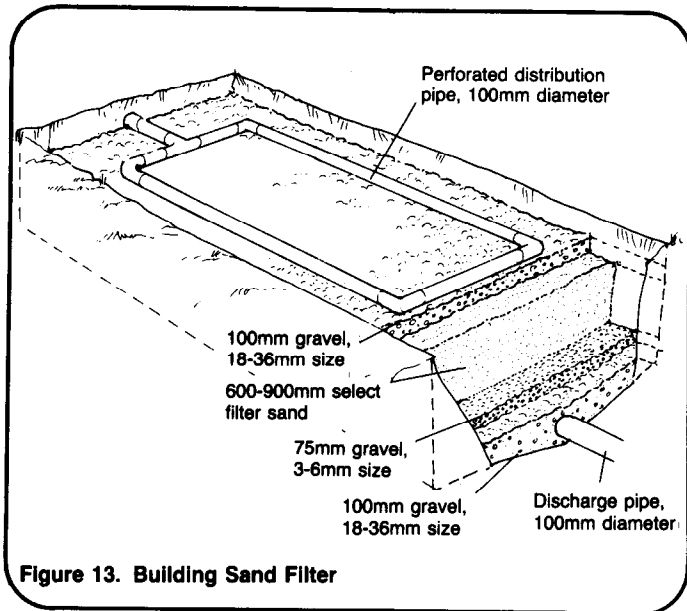

Figure 13. Building Sand Filter
6. Completing the System. Fill the excavation with 150-300mm of topsoil and mound the soil for surface drainage. See Figure 13. Plant grass seed over the system.